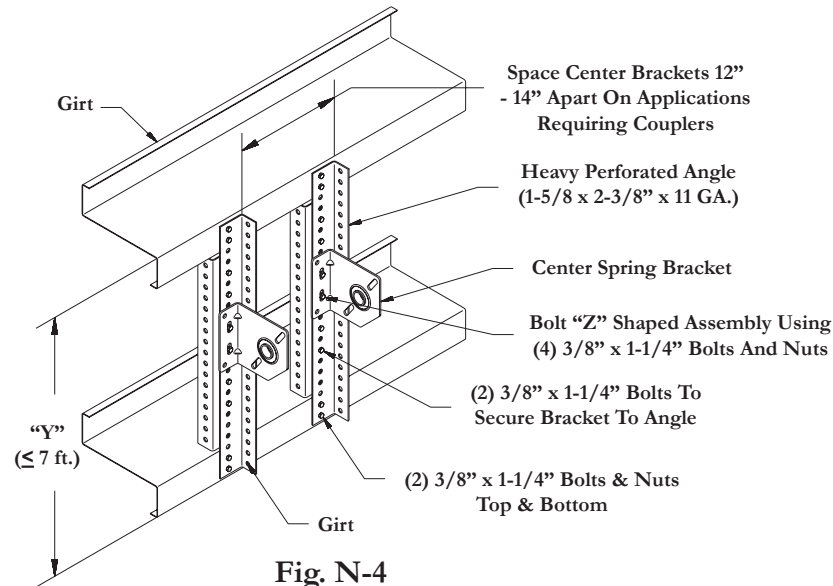

Fig. N-4
Maximum Door Size 14'-2" x 12'-1" (Maximum Door Weight 800 lb.): Cut (2) pieces of perforated angle (1-5/8 x 2-3/8" x 11 GA.) to Dim "Y" and (2) more pieces at Dim "Y" minus 3. Bolt the angles together into a "Z" shape using (4) 3/8" x 1-1/4" bolts and nuts. Thru-bolt top and bottom of each "Z" shaped angle to each girt using (4) 3/8" x 1-1/4" bolts and nuts. Thru-bolt each center bracket to perforated angle assembly using (2) 3/8 x 1-1/4" bolts and nuts (See Fig. N-4).